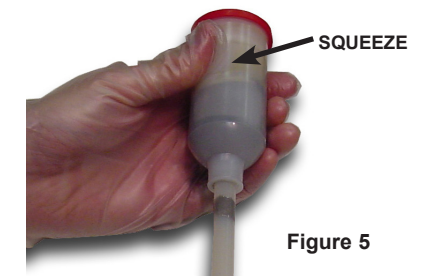

Figure 5
- Squeeze the cartridge in the area of the removed tape band to deform the foil barrier between the two materials. See Figure 5.